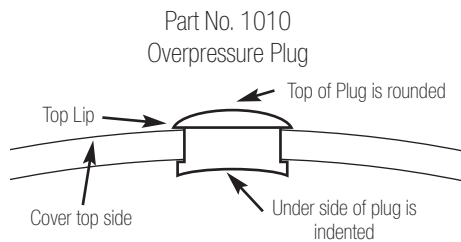

Fig. 7
pushing the round top side into the opening from the underside of the cover (See Fig. 7).
6. OVERPRESSURE PLUG, PART NO. 1010 (See Fig. 7). Your sterilizer is also equipped